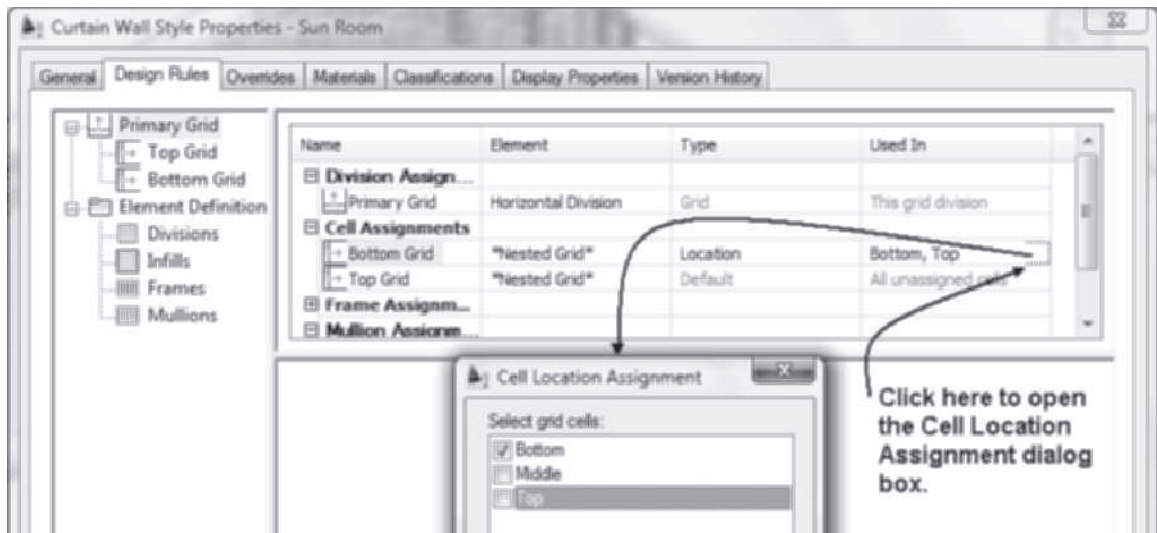

FIGURE 6.45 Cell assignments of grids
11. Choose the **Primary Grid** in the left pane. To define where to apply the **Bottom Grid**, click in the right margin of the **Used In** field of the Bottom Grid as shown in Figure 6.45. Edit the **Cell Location Assignment** to only the **Bottom** cells. Click **OK** to dismiss the Cell Location Assignment dialog box.